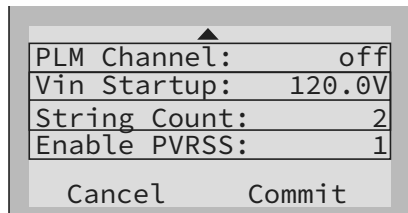

Figure 6-3. PVRSS Commissioning (2 of 4)
4. See Figure 6-3. If installing a dual string array, select Mod. Settings and update the String Count value to 2.